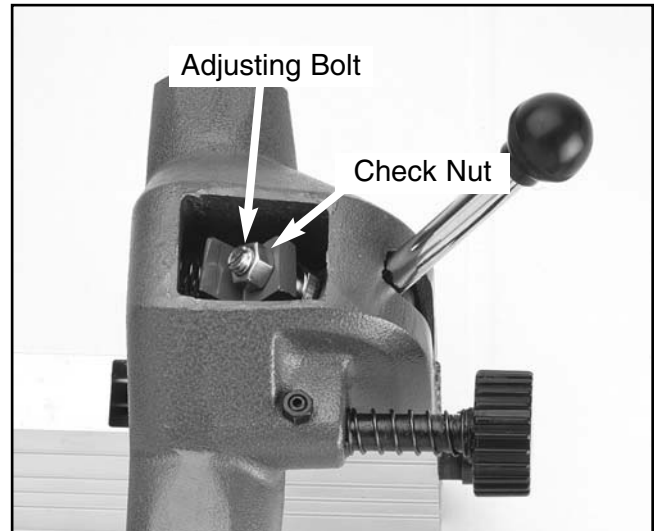

Figure 30. Adjusting clamp mechanism.
2. If the front clamp requires adjustment, loosen the check nut shown in **Figure 30**. Turn the adjusting bolt clockwise if the front clamp is too far from the rail, counter-clockwise if it is too close.